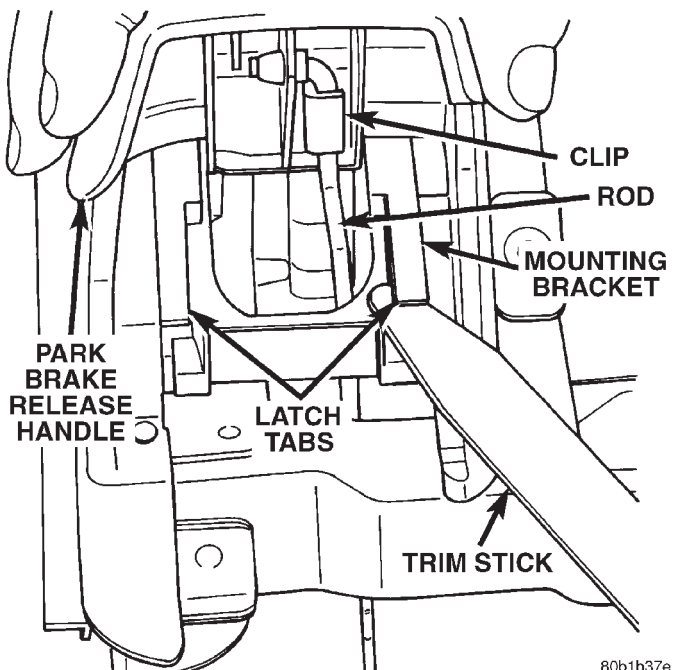

Fig. 12 Park Brake Release Handle Remove/Install
(1) Disconnect and isolate the battery negative cable.
(2) Reach under the driver side outboard end of the instrument panel to access and unsnap the plastic retainer clip from the park brake release linkage rod at the park brake mechanism on the left cowl side inner panel.
(3) Disengage the park brake release linkage rod end from the park brake mechanism.
(4) Lift the park brake release handle to access and unsnap the plastic retainer clip from the park brake release linkage rod at the park brake release handle on the instrument panel.
(5) Lower the park brake release handle and reach under the instrument panel to disengage the park brake release linkage rod end from the park brake release handle.
(6) Lift the park brake release handle to access the handle mounting bracket. Using a trim stick or another suitable wide flat-bladed tool, gently pry each of the park brake release handle mounting bracket latch tabs away from the retaining notches in the instrument panel receptacle (Fig. 12).
(7) With both of the park brake release handle mounting bracket latches released, slide the handle and bracket assembly down and out of the instrument panel receptacle.
(8) Reverse the removal procedures to install.